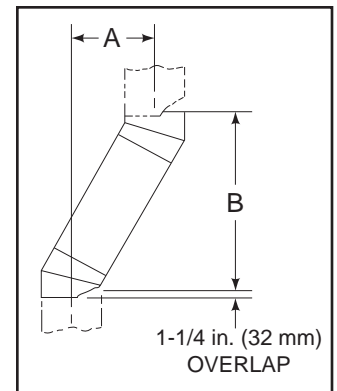

Figure 5.3 Chimney Offset/Return
- Measure how far the chimney needs to be shifted to enable it to avoid the overhead obstacle. See Figure 5.3. Use dimension “A” to determine chimney section required to achieve the needed shift.
Example: Your “A” dimension from Figure 5.3 is 14 1/2 in. (368 mm). Using Table 5.2 the dimension closest to, but not less than 14 1/2 in. (368 mm) is 14 1/2 in. (368 mm) using a 30° offset/return. It is then determined from the table that you would need 34 1/8 in. (867 mm) (Dimension “B”) between the offset and return. The chimney component that best fits your application is one SL324.